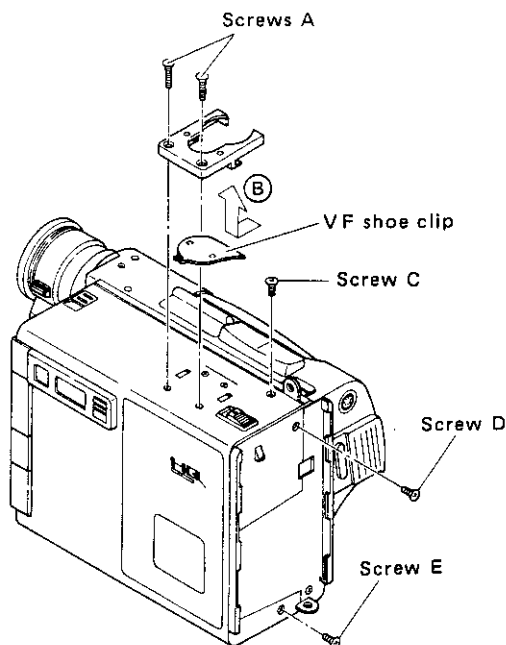

Fig. 1-1-2 (A)
2. Refer to Fig. 1-1-2(A) and 1-1-2(B), and take out screws C, D, E, F and G (two screws).